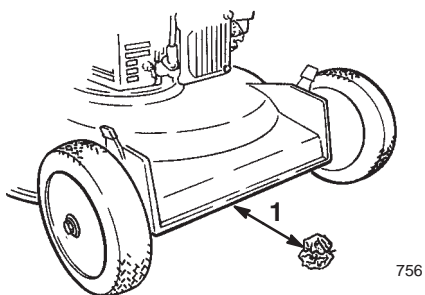

Figure 14
- Take a half sheet of newspaper and crumple it into a ball small enough to go under the deck (about 3 in. or 76 mm in diameter) as shown in Figure 14.
- Place the ball of newspaper 5 in. (12.7 cm) in front of the lawn mower (Fig. 14).
- A. Place the ball of newspaper 5 inches (12.7 cm) in front of the lawn mower (Fig. 14).